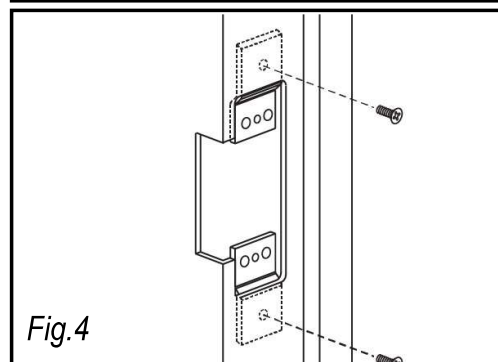

Fig.4
5. Using two of the included machine screws, affix the mounting tabs to the inside of the door jamb (see fig. 4).